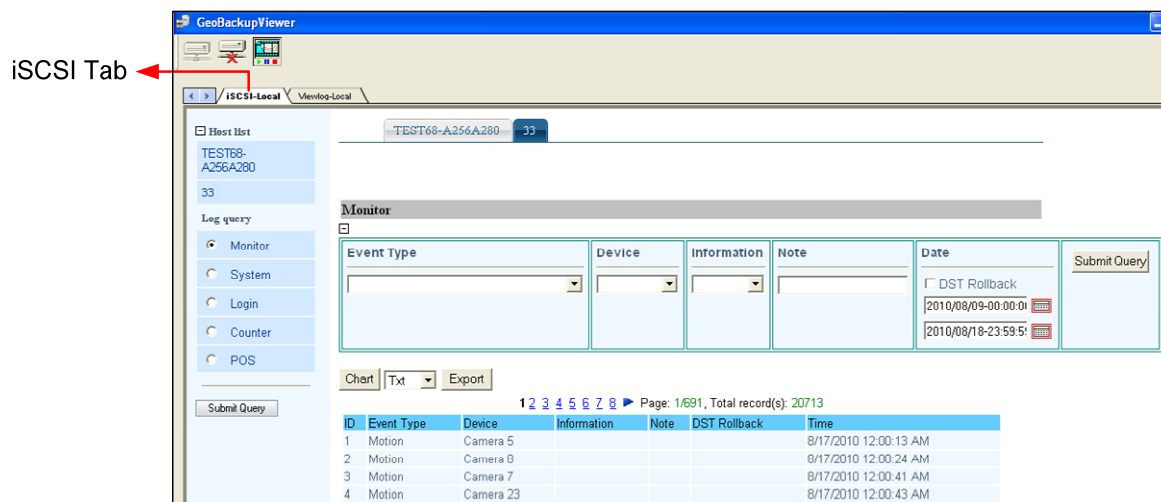

Figure 11-56
2. Run **Backup Viewer**. The Backup Viewer window (Figure 11-56) appears.